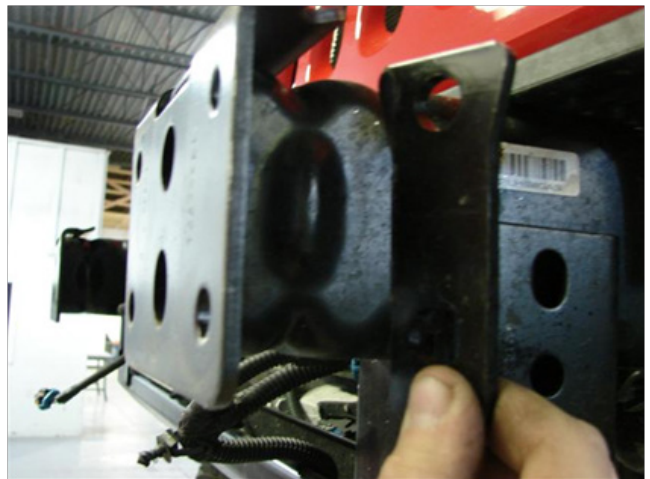

Figure 2
2. Remove factory bumper (fig. 2).